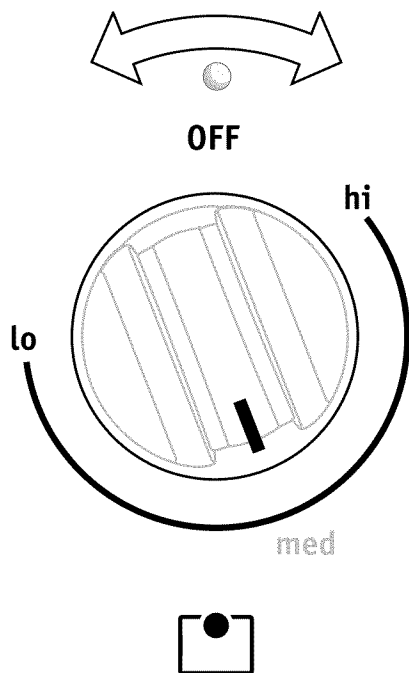

Fig. 1 (with approximate setting for medium shown)
1. Push in either direction and turn the keep warm control knob (See Fig 1). The temperatures are approximate, and are designated by **hi** and **lo**. However, the control may be set at any position between **hi** and **lo** for different levels of warming.